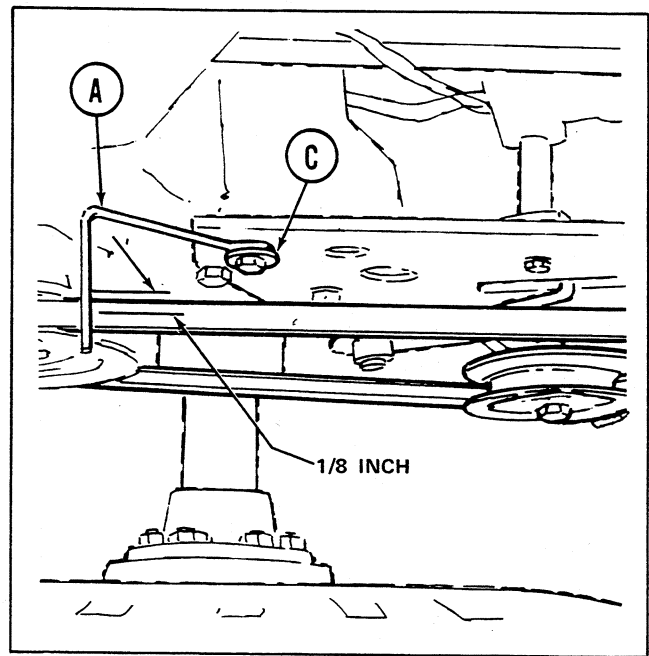

Figure 11. Belt Stop Adjustments.
See figure 11. With the clutch-brake pedal released, the belt stops at (A) and (B) should be positioned as shown. There should be 1/8" clearance between belt stop (A) and the belt as shown. If adjustment is required, loosen the cap screw at (C) and position the belt stop correctly. Tighten cap screw (C) securely after making the adjustment.